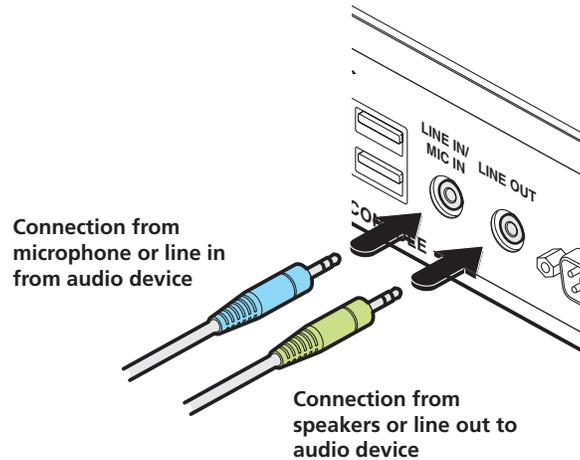

Figure 3-11. Connect the speaker and microphone cables to audio sockets.
- 1 Connect the lead from a mono microphone or, alternatively, a line in connection from an audio device to the 3.5mm socket labelled **LINE IN/MIC IN** on the rear panel. See Figure 3-11.